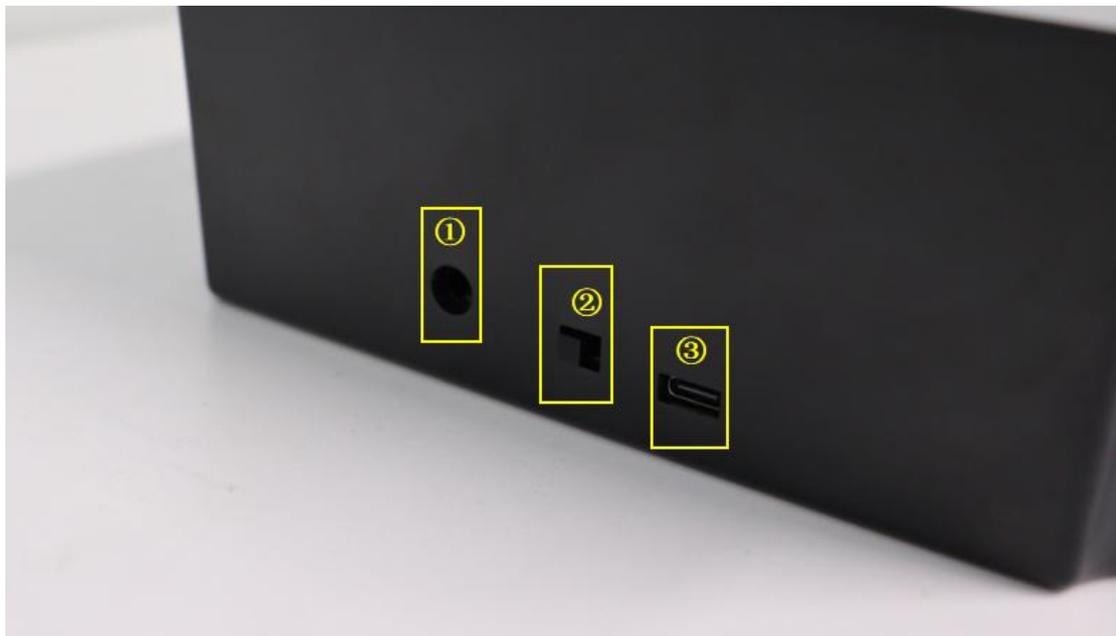

Figure 3 Adapter Interface, Power-On Switch and Type-C interface
- a) Connect the ADAPTER to the Adapter Interface of the left side of the instrument (Figure 3 ①).
The Type-C interface is used to connect to the PC for software upgrades (Figure 3 ③).
Turn on the TFS Pro4 Foodborne Pathogen Analyzers by switching the Power-On Switch on the left side of the instrument (Figure 3 ②). Click "Setting" on the Main Page (Figure 4) to access the Setting Page (Figure 5). On the Setting Page, you can:
Turn on the TFS Pro4 Foodborne Pathogen Analyzers by switching the Power-On Switch on the left side of the instrument (Figure 3 ②). The Boot Screen (Figure 6) will appear, and after a few seconds, it will automatically transition to the Main Page (Figure 7).